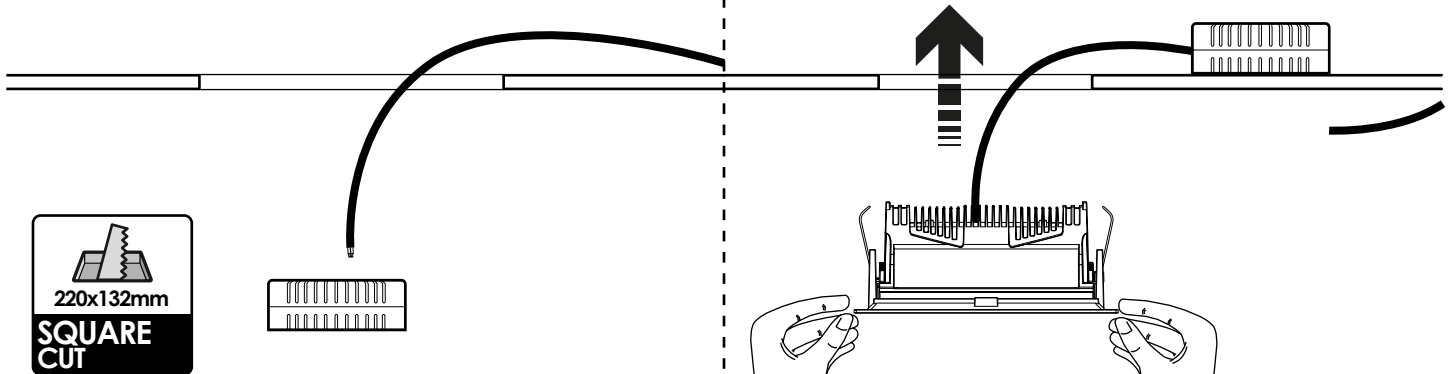

FIG. 3
4. Install the luminaire back into the installation space (FIG 3).